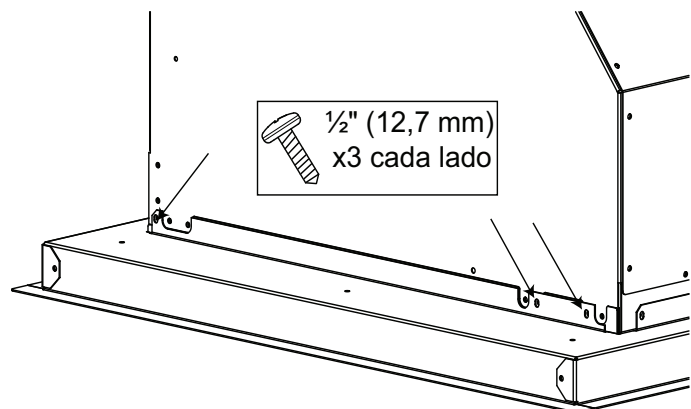
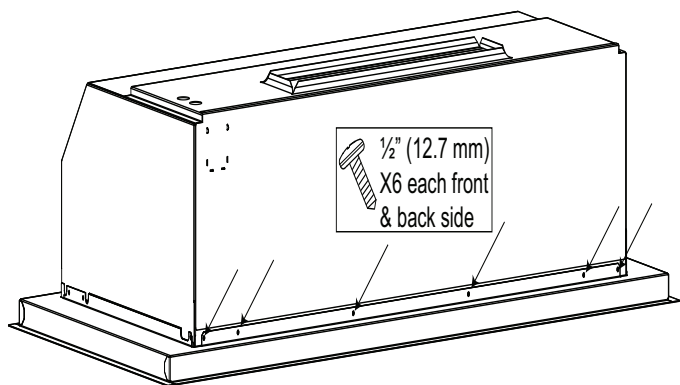

Figure 35: VCIB Secure Liner Sides
Figure 36: VCIB Secure Liner Front & Back
- b) Hold liner flush to the bottom of the housing. Secure the liner to the hood with eighteen (18) x ½" (12.7 mm) screws, as indicated in *Figure 35* and *Figure 36*.